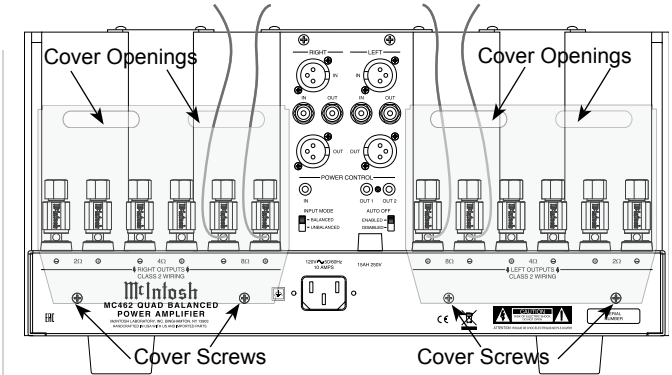

Figure 6 (Outside USA and Canada)
13. Locate the Terminal Connection Covers from the inside of the MC462 shipping carton. Insert the just prepared Loudspeaker hookup cables thru the cover openings, one cover for each channel. Refer to figure 6.
Note: The illustration in figure 6 is connections for 8Ω (ohms) Loudspeakers.
- 15. Attach the Terminal Connections Covers to the MC462 Rear Panel with the previously removed Screws. Refer to figure 6.